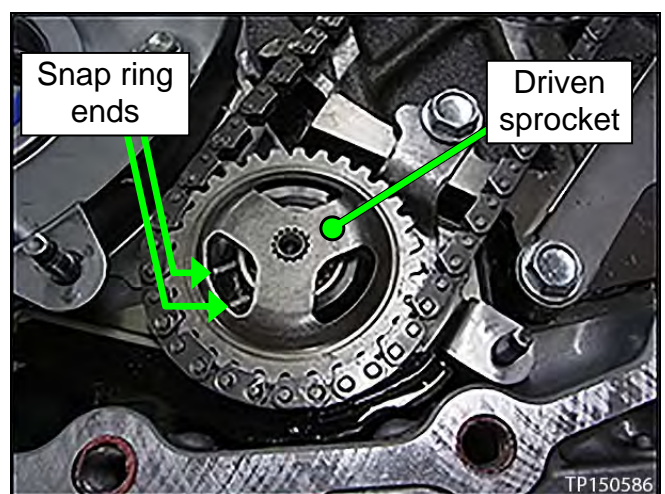

Figure 73
14. Expand the snap ring with a suitable tool, and then push down on the driven sprocket until it bottoms out (see Figure 73).